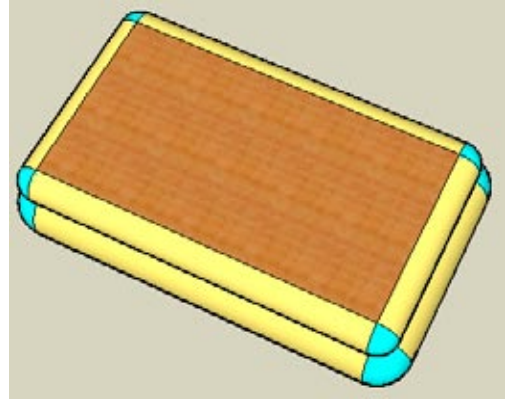

Figure 4-22
11. Only a quarter of this round object is showing; the rest of it is within the box. But the whole object needs to be copied to each corner. Right-click on the round corner and choose Select→All with Same Material, which selects the entire object. Then copy the round object to each corner (Figure 4-22).